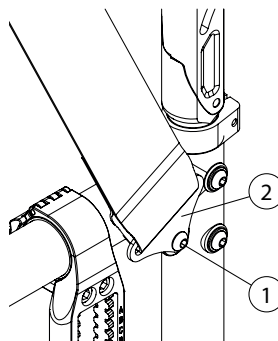

Fig. 13
- Remove Screw (1) in order to remove the seat belt clamp (2) that is attached to the belt. (Fig. 13)